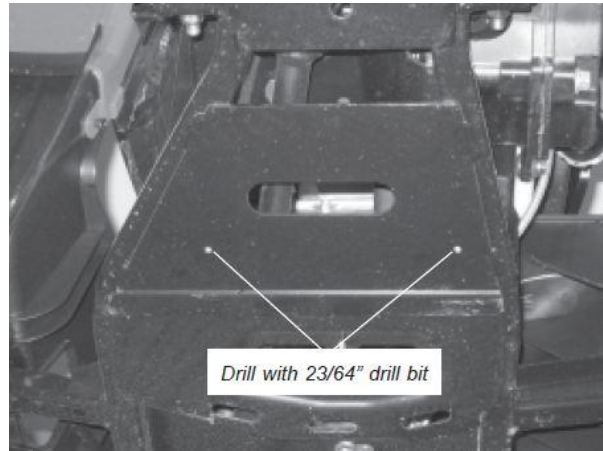

Figure 3
- Using a  $\frac{23}{64}$ " drill bit, drill holes into the factory skid plate marked in step two (Figure 3) **Caution:** Make sure the area behind the factory skid plate is clear before drilling.